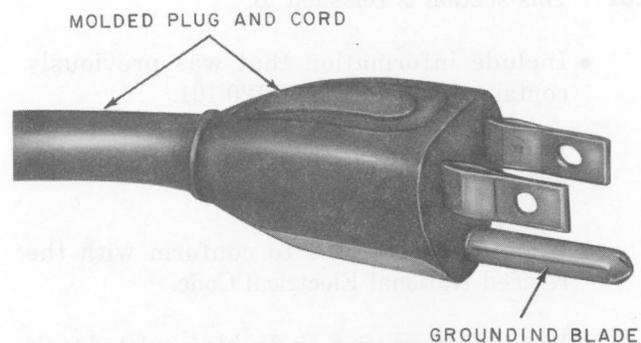

Fig. 1—Standard 3-Blade Plug
3.01 All electric power tools requiring grounding as covered in 1.04 should be equipped with a 3-conductor cord which terminates in a standard 3-blade plug (Fig. 1).